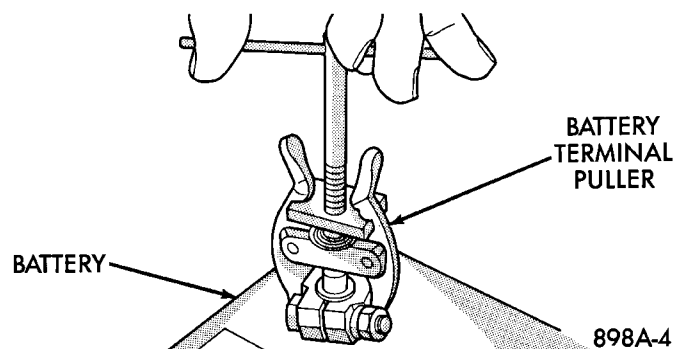

Fig. 15 Remove Battery Terminal Clamp - Typical
(1) Turn the ignition switch to the Off position. Make sure all electrical accessories are turned off.
(2) Loosen the cable terminal clamps and disconnect both battery cables, negative cable first. If necessary, use a puller to remove the terminal clamps from the battery posts (Fig. 15).